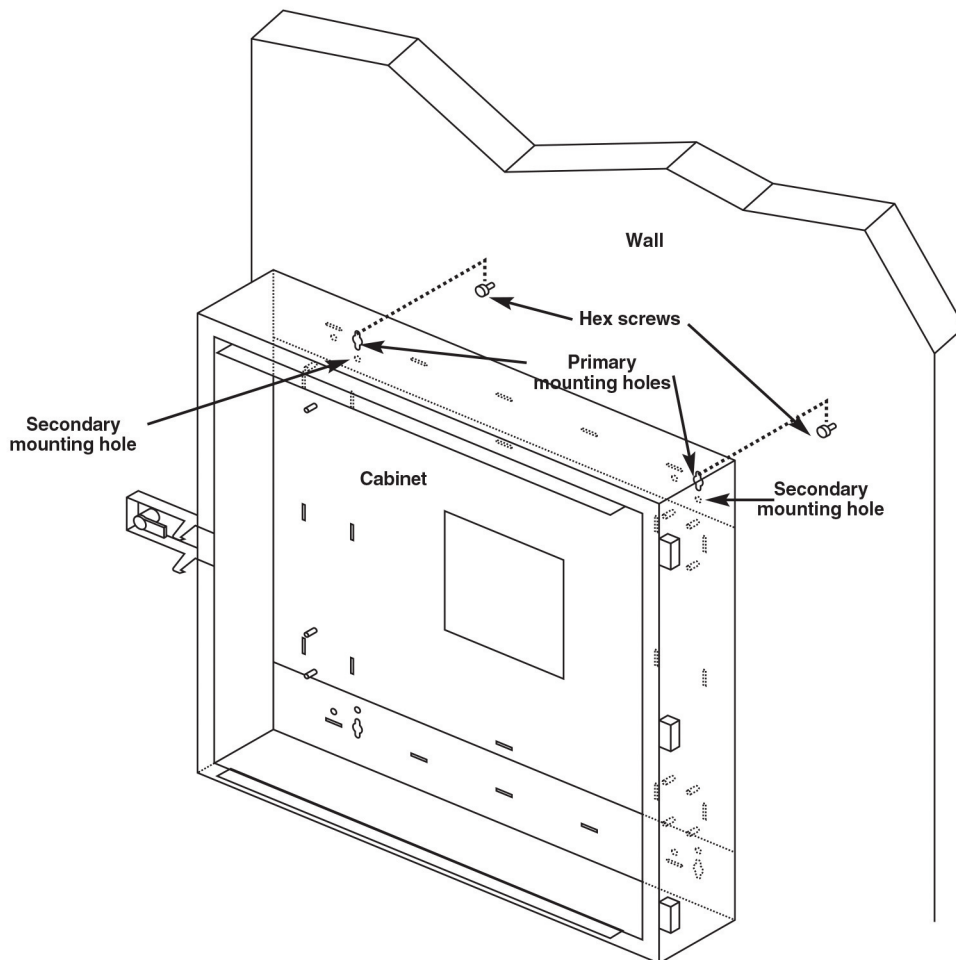

Figure 3-2. Mounting the cabinet on the wall.
7. Position the cabinet with its primary mounting holes flush against the wall. Hang the cabinet on the hex screw heads. Refer to Figure 3-2.
9. Drill (4) 1/4" x 2" hexagonal screws into the wall through the secondary mounting holes.